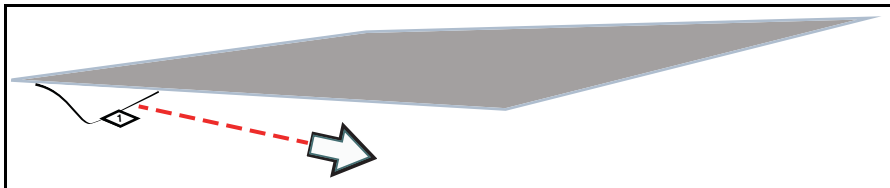

Figure 17-3 Removing rear mask
2. Remove the rear mask (Figure 17-3) from the screen protector.